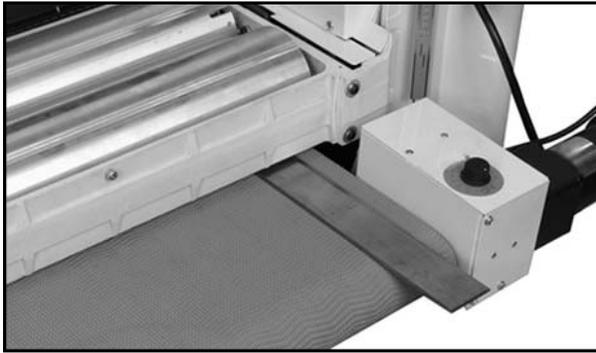

Figure 16
3. Place gauge on conveyor bed at inboard (right) side (Figure 16).